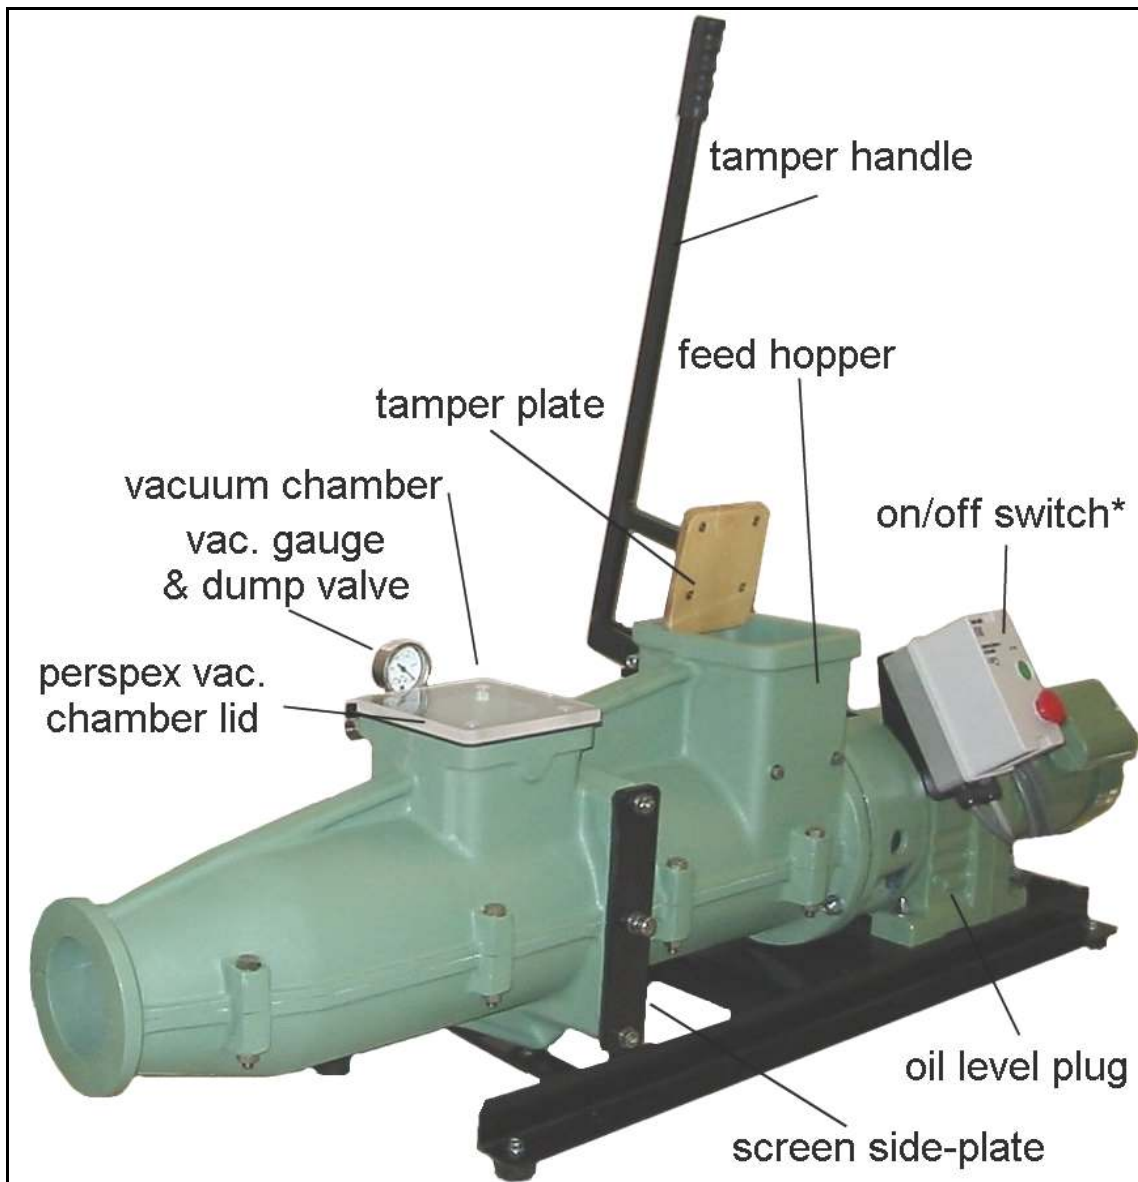

Figure 1: Components of the Venco 75mm pugmill (vacuum pump not shown)
1. Screw the vacuum gauge onto the brass fitting attached to the rear of the pugmill's vacuum chamber. To tighten use a 14mm (9/16") spanner on the square brass section adjacent to the thread –do not over tighten. A layer of Teflon tape (plumber's thread tape) on the thread may make it easier to align the gauge as in Fig. 1.
4. Fit one of the vacuum chamber gaskets onto the posts of clear plastic cover. Place the cover on the vacuum chamber. See Fig 1.
To drain the gearbox, remove the lowest plug adjacent to the gearbox foot. Use a 5mm hex key to remove the gearbox plugs. To fill the gearbox, firstly remove the oil level plug located approx. 50mm (2”) up the side of the gearbox from the black base. See figure 1. Fill via either of the top two filling plugs until oil starts to run from the open level plug.